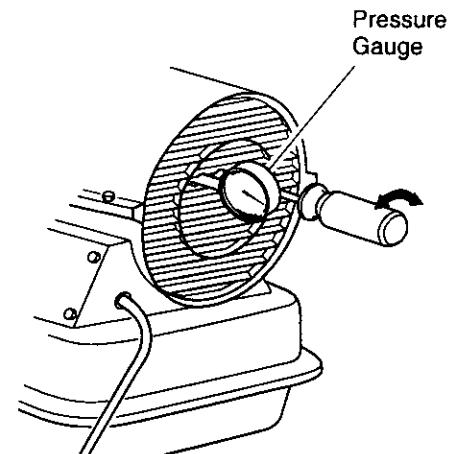

Figure 8 - Adjusting Pump Pressure
14. Place fine grade sandpaper (600 grit) on flat surface. Sand rotor lightly in "figure 8" motion four times (see Figure 19).